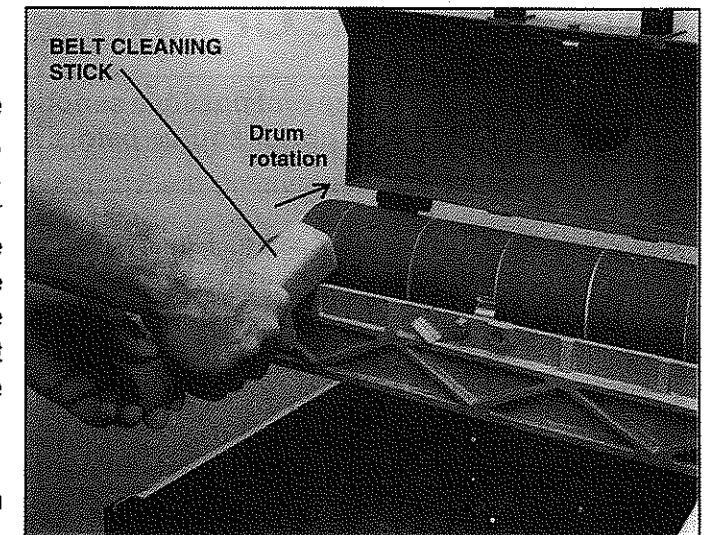

Figure 20
4. Use a long belt cleaning stick to distance your hands from the rotating drum. (See Figure 20.)
5. Turn on the machine, grip the belt cleaning stick with two hands, rest the cleaning stick on the casting which houses the sanding drum. Gently lower the cleaning stick onto the rotating drum, moving the cleaning stick from side to side to remove the impacted sawdust. (See Figure 20.)